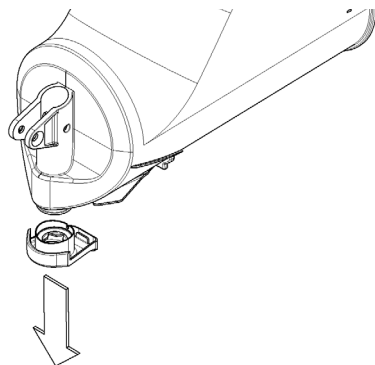

figure 12
- 3 Reassemble the tap on the container in reverse order compared to that shown in figure 12.